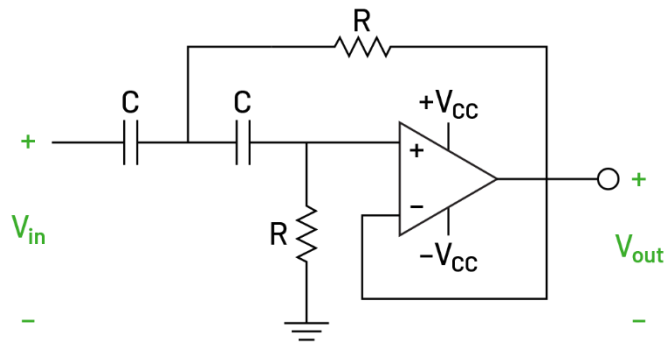

Figure 3. High pass filter circuit diagram.
- Build the high pass filter circuit shown in Figure 3. To power the op amp, use the same power supply configuration as used in Task 1. Configure the AFG to input the following sine wave: